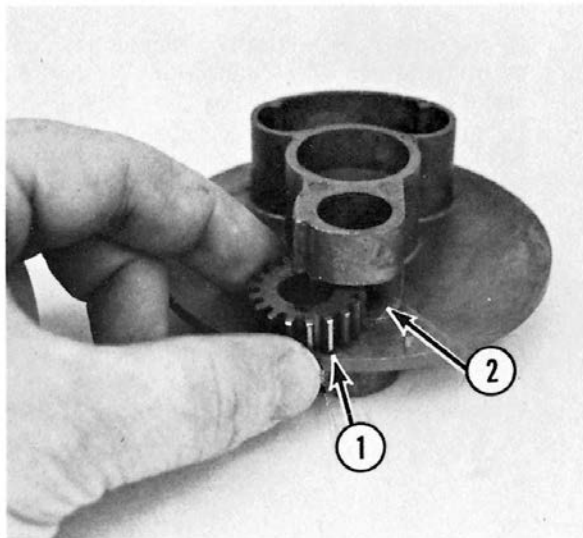

Fig. 2-5
- G. Remove the pinion (1, Fig. 2-5).
- H. The lower bearing (2, Fig. 2-5) can be pressed out of the planetary from the top side.